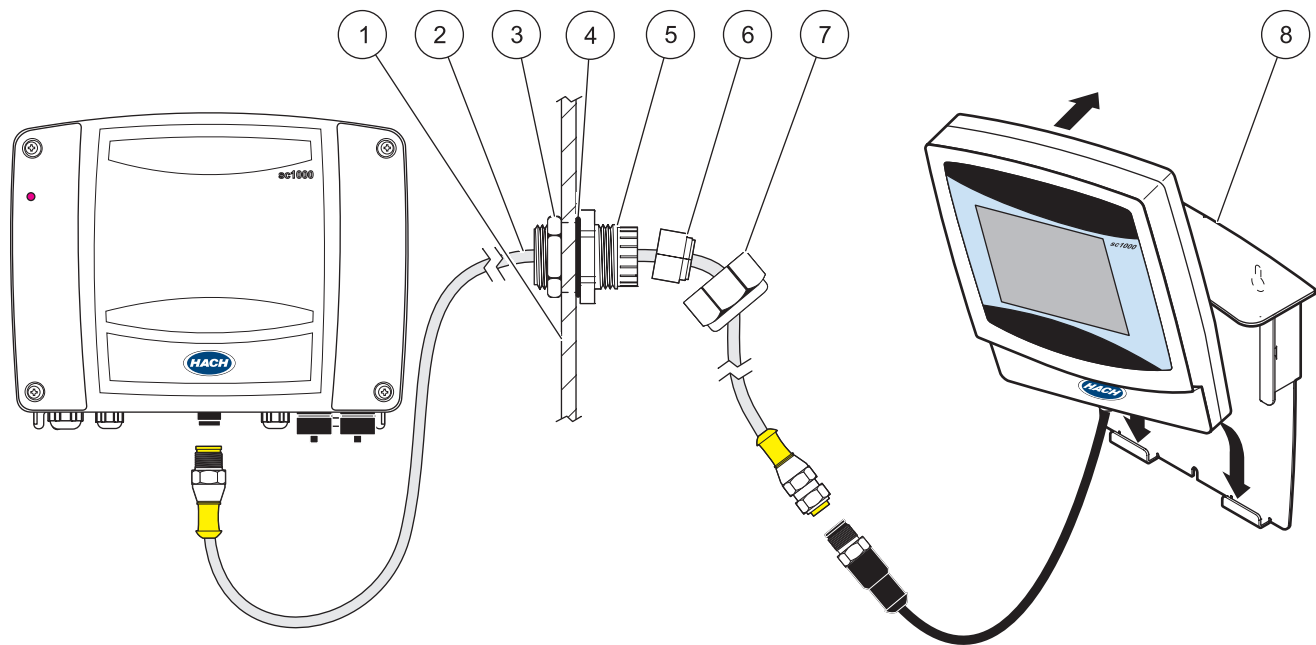

Figure 2 Instrument components
The sc1000 panel mount installation kit includes the following components, shown in Figure 2 on page 3:
- 4. Hang the sc1000 display module on the panel mount bracket (Figure 2, item 8).
1. Thread the O-ring (Figure 2, item 4) onto the strain relief body.
2. Install the strain relief fitting into the panel pass-through hole. On the probe module side of the panel, thread the lock nut (Figure 2, item 3) onto the strain relief and hand-tighten.
3. Thread the extension cable through the strain relief (Figure 2, item 2).
4. Install the bushing (Figure 2, item 6) onto the extension cable. Note the orientation in Figure 2.
5. At the clamping fingers (Figure 2, item 5), rotate the bushing counter-clockwise and push the bushing into place in the strain relief.
6. Thread the nut (Figure 2, item 7) onto the extension cable and hand-tighten onto the strain relief.